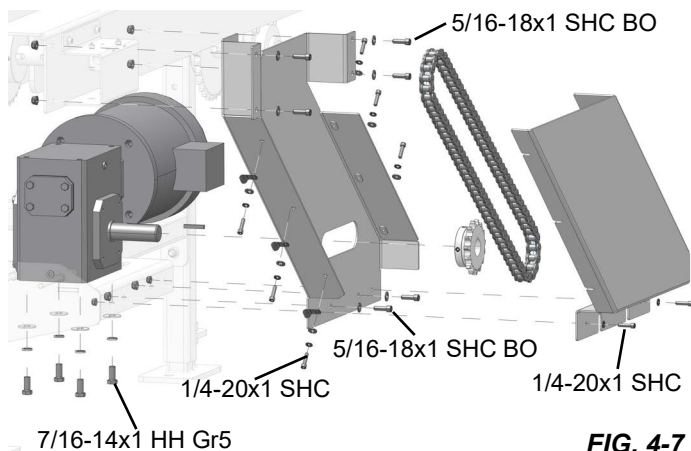

FIG. 4-7
11. Bolt down the gear motor to the shelf, but do not tighten securely yet. See FIG. 4-7.
12. Bolt the back cover to the frame as shown in FIG. 4-7.